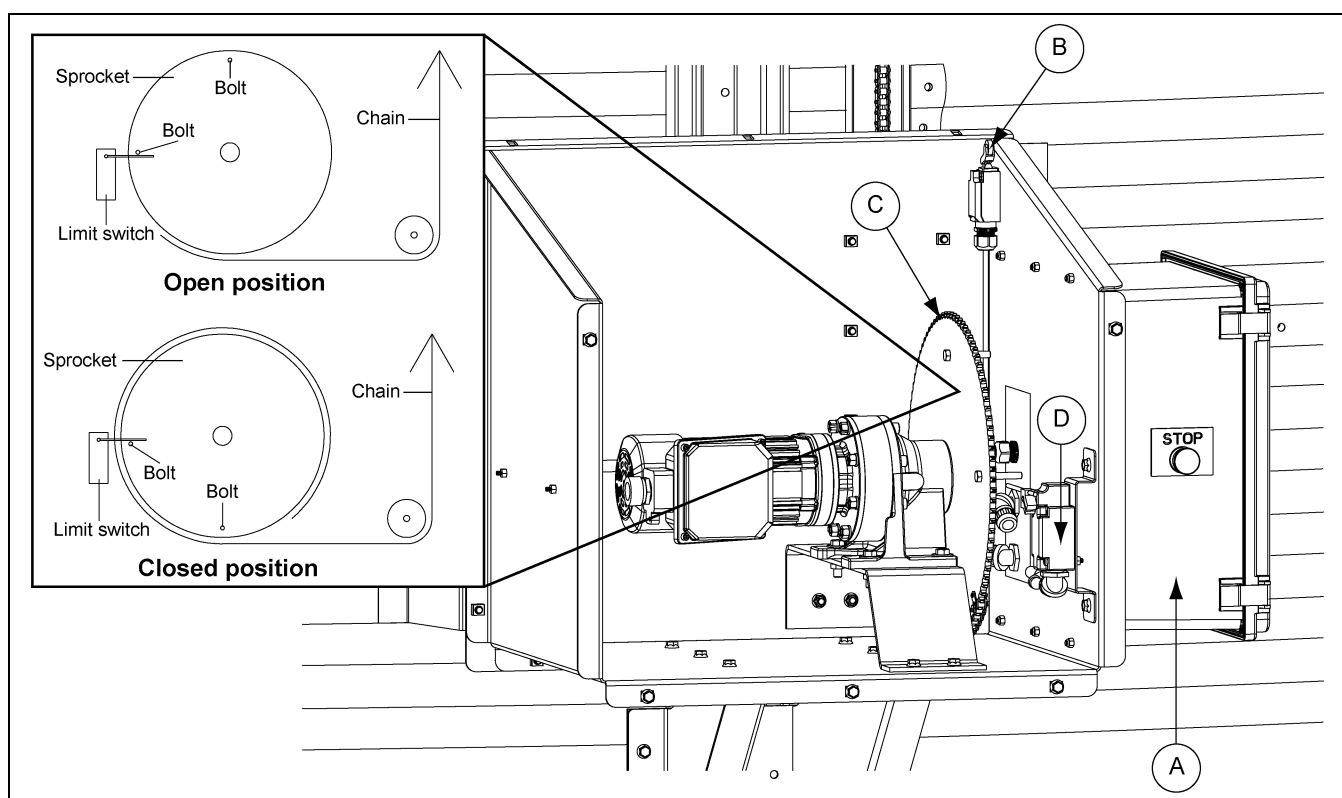

Figure 4H
1. Field drill two (2) holes in bottom of chute position controller electrical box (A) large enough to accommodate cables for power and Autoflow controls. Refer to wiring diagrams on Pages 23 and 24 to feed conduit for wiring to the main power breaker and Autoflow controls. (See Figure 4H.)
**NOTE:** For system to function when testing travel with the cover removed, the tamper switch (B) must be depressed.
- b. Ensure the sprocket (C) is in the open position when beginning testing. Use the manual dump chute switch located on the main control panel to move between the open and closed positions. Set the sprocket travel to the closed position on the Autoflow control and observe the bolts in the sprocket (C) travel from the open (clockwise) position to the closed (counterclockwise) position to the limit switch (D) as shown in Figure 4H.